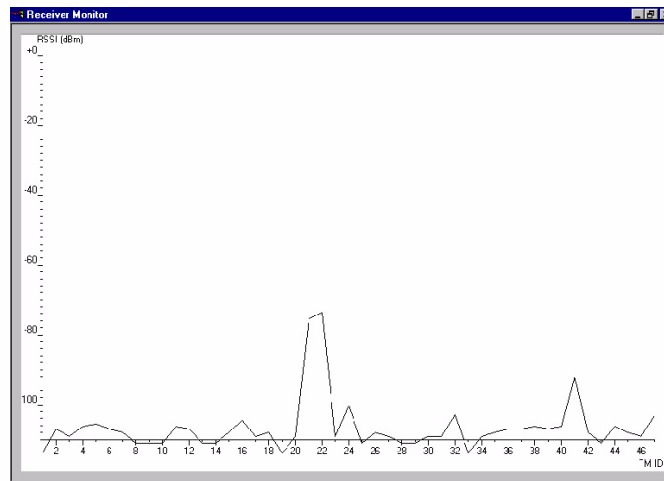

FIGURE 4-4
4. Select RX monitor. A Spectrum Analyzer like display will open (shown in FIGURE 4-4). The display shows RSSI values for all channels supported by the TIM PCI card on the selected uplink band.